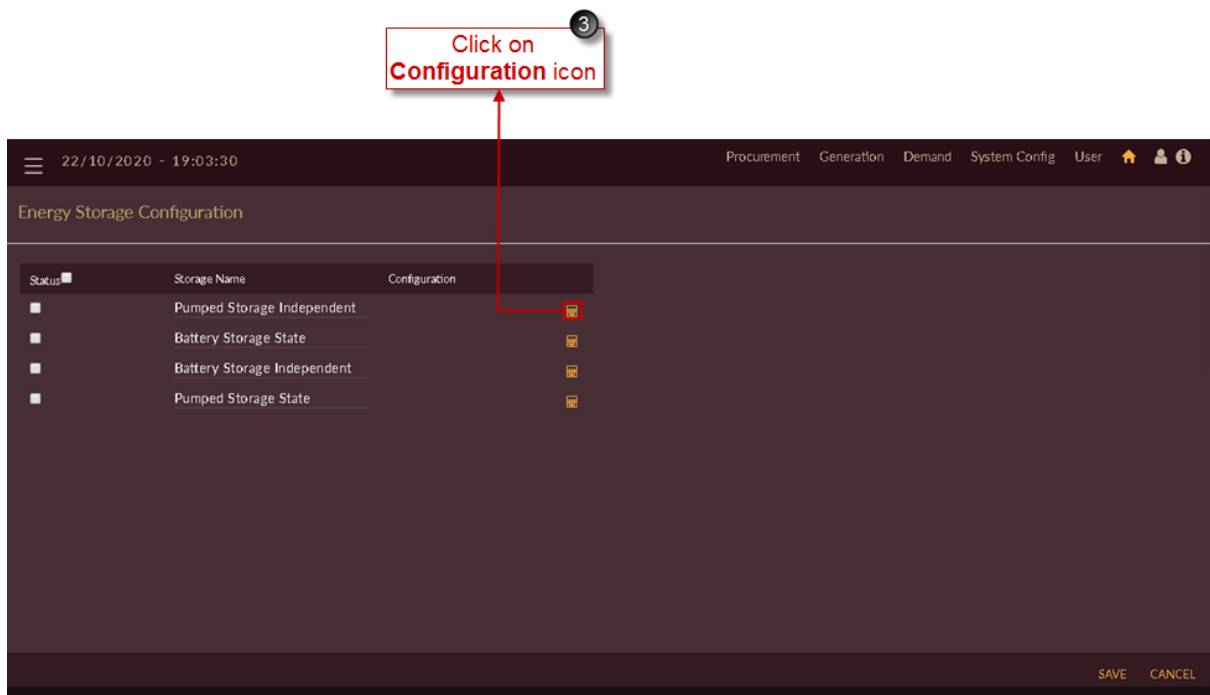

Figure 283. Configuring Storage Plant for PPO Scenario
3. Click on **Configuration** **⚙️** icon of respective storage plant to configure it into PPO Basecase scenario. Here **Pumped Storage Independent** plant is selected in Figure 283.